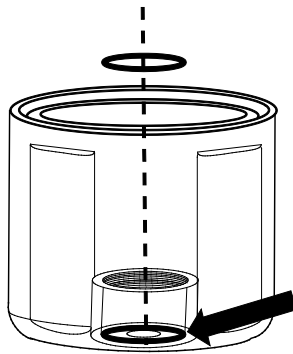
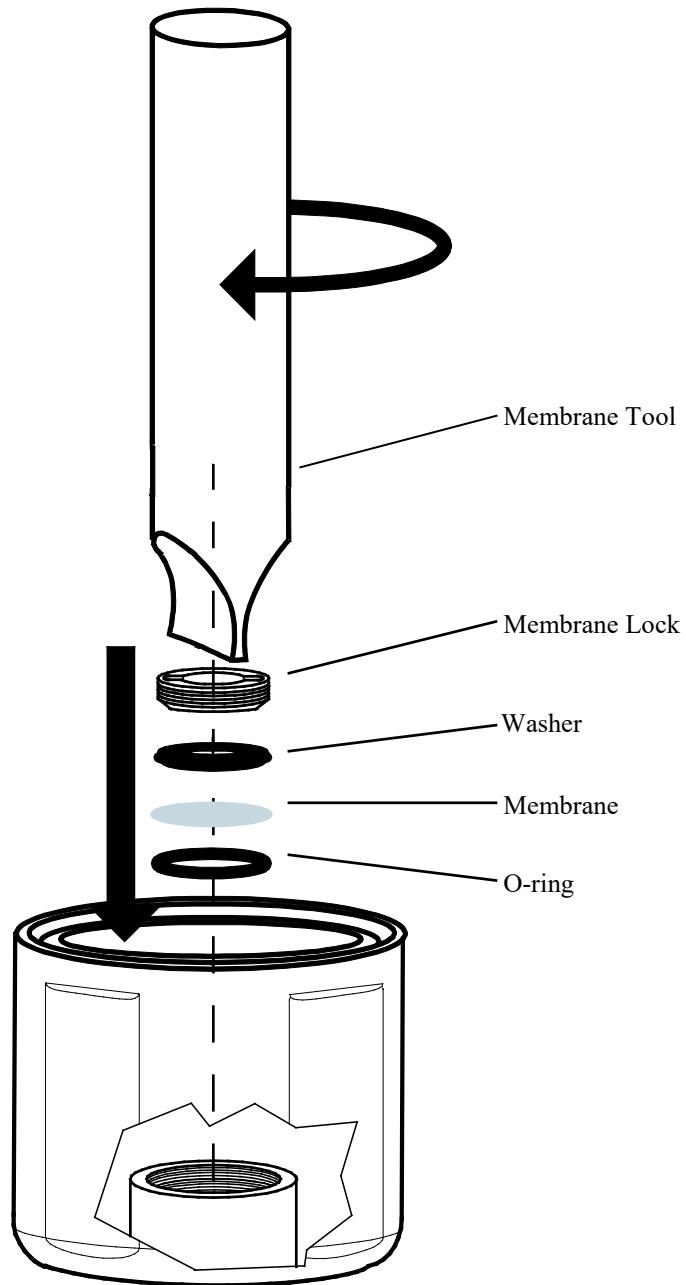

FIGURE 8-4. Proper O-ring placement
FIGURE 8-5. Installing membrane
- Replace the membrane and its O-ring by first placing the new O-ring at the bottom of the membrane cavity (FIGURE 8-4). Remove the paper backing from a new membrane and place the new membrane on top of the O-ring, and place the washer on top of the membrane. Using the membrane tool, install the membrane lock on top of the washer (FIGURE 8-5). Make sure the cap is upright (not sideways) when securing the membrane lock to the washer.